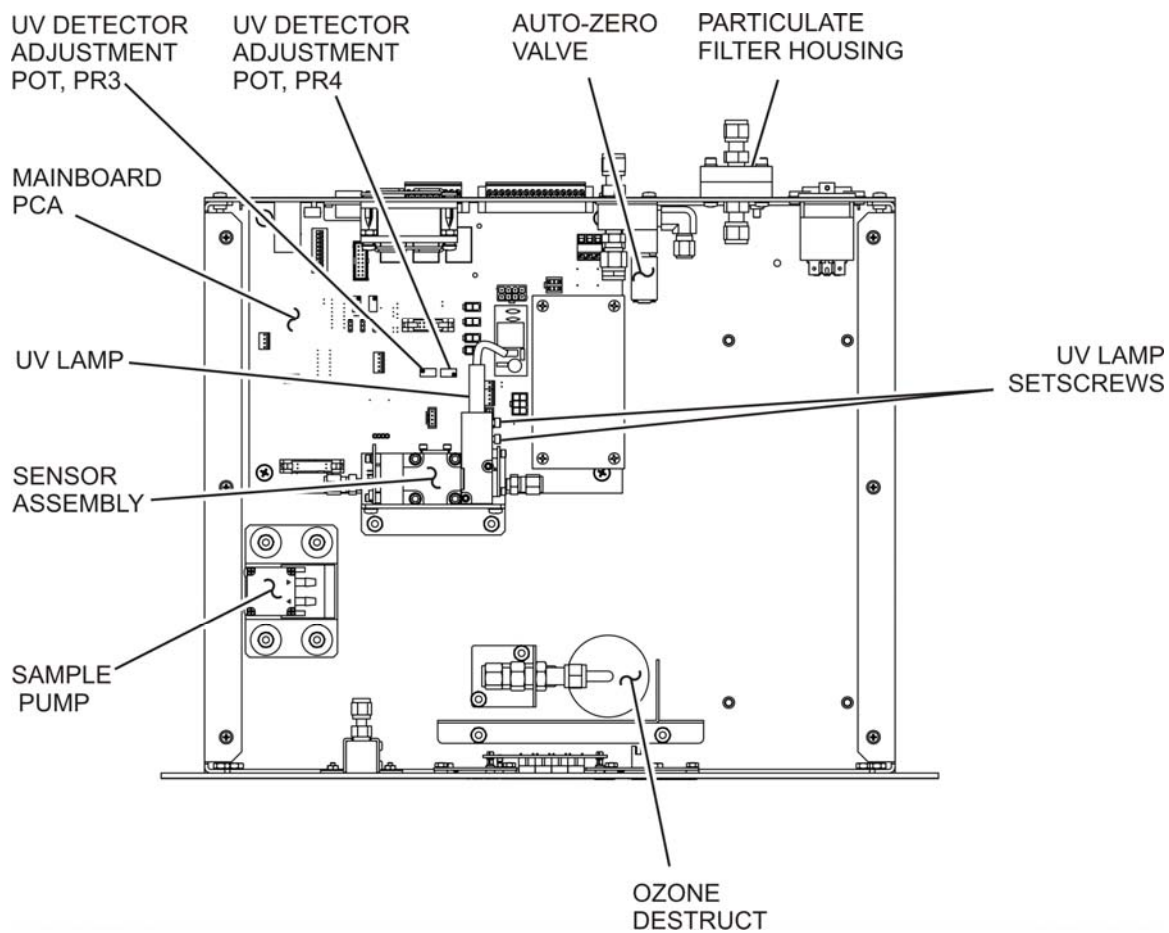
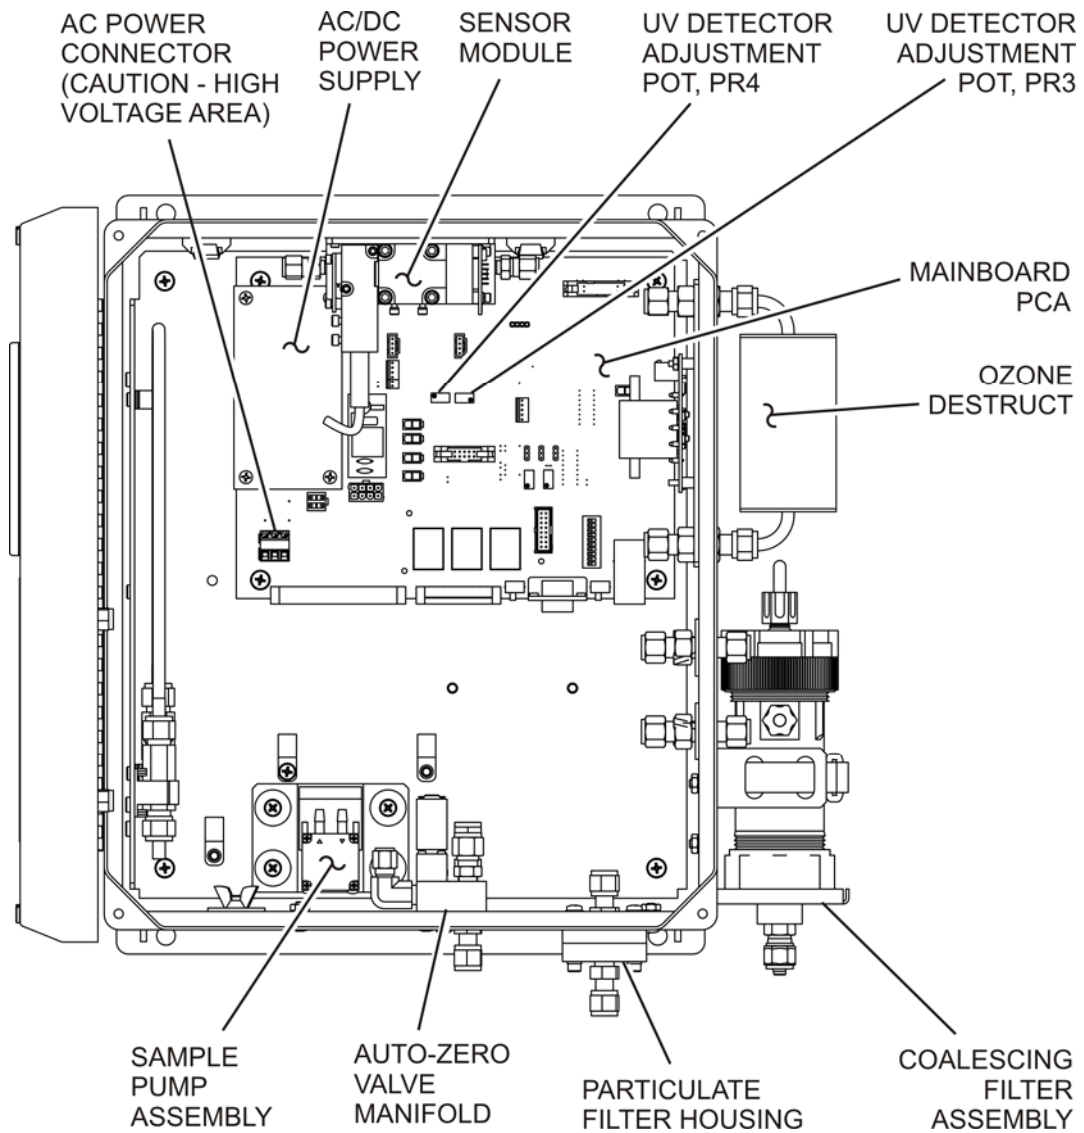

Figure 9-1: Instrument Layout, Rack Mount Configuration
Figure 9-2: Instrument Layout, NEMA Configuration
Figure 9-1 and Figure 9-2 shows the internal layout of the M465M. These figures will be referenced in the procedures that follow.
2. Loosen the six screws from the top cover (Rack Mount Configuration, see Figure 9-1) or open front panel (NEMA Configuration, see Figure 9-2.)
4. Locate the particulate housing filter on the rear panel (Rack Mount Configuration, see Figure 9-1) or the bottom panel (NEMA Configuration, see Figure 9-2.)
3. Locate the Reference UV Detector adjustment pot, PR3, on the Mainboard PCA (see Figure 9-1 or Figure 9-2.)
6. Locate the Measure UV Detector adjustment pot, PR4, on the mainboard PCA (see Figure 9-1 or Figure 9-2.)
9. If the required adjustment cannot be achieved by adjusting the UV Detector pot alone, then additional adjustment can be made by loosening the two UV lamp setscrews on the UV lamp housing (see Figure 9-1 or Figure 9-2) and rotating the lamp. Rotate the lamp very slowly while observing the REF or MEAS value on the display. Make sure the lamp does not pull out and remains seated in the housing while it is being rotated. Re-tighten the two setscrews when a desired point has been reached.
3. Loosen the two UV lamp setscrews on the UV lamp housing (see Figure 9-1 or Figure 9-2.)
3. Locate sample pump assembly (See Figure 9-1 or Figure 9-2.)
3. Locate the auto-zero valve (See Figure 9-1 or Figure 9-2.)
7. Remove the two (2) mounting screws using a #2 Phillips screwdriver. Note that there are four screw heads visible on the top of the valve body, only two (2) of
3. Locate the Mainboard PCA (see Figure 9-1 or Figure 9-2.)